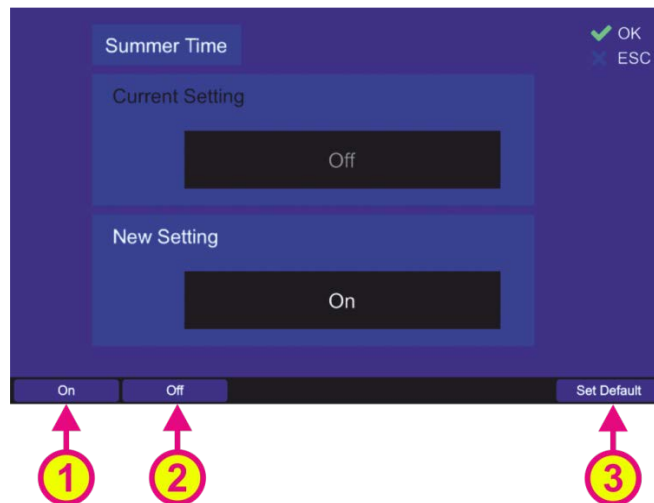

Fig. 138 Changing summer time setting
- Choose the “On” or “Off” hotkey to set the desired variant of the time indication (s. Fig. 138, positions 1 or 2).
- Use the “Set Default” hotkey (s. Fig. 138, position 3) to reset the value to the default value (Off).